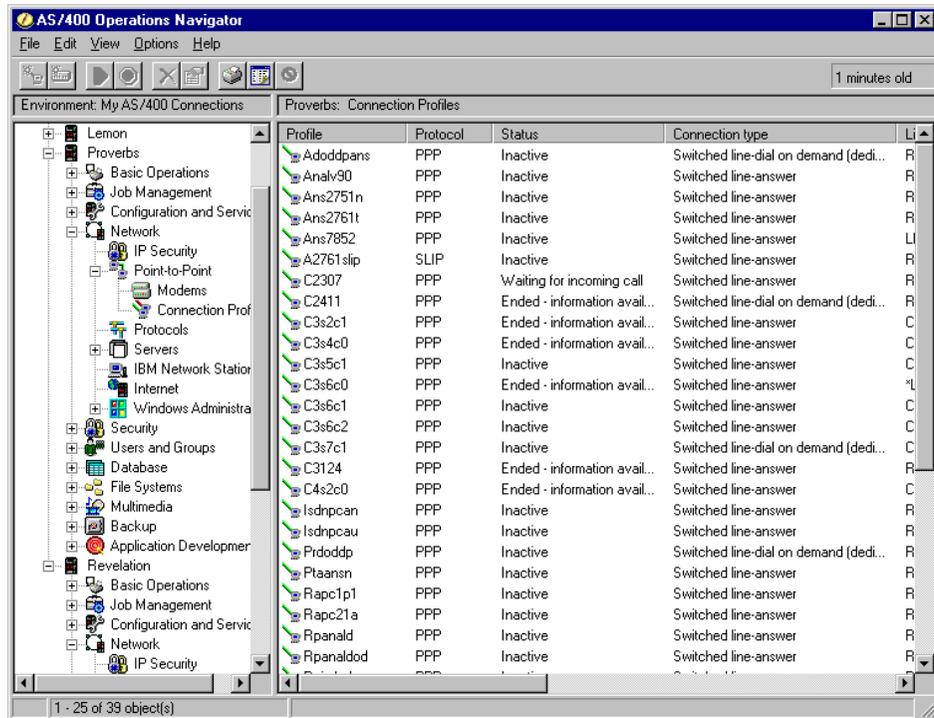

Figure 21. Answer profile status on AS2
2. Right-click the profile name in each system and select **Start** to activate the connection. The Answer profile shows “Waiting for incoming call” status on the Operations Navigator screen (Figure 21 on page 34), and the Dial profile shows an “Active connections” status in Cases 1 and 2.